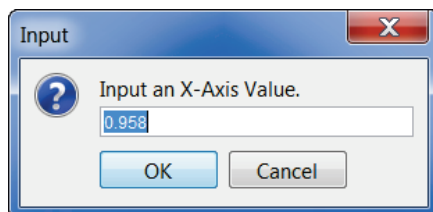

Figure M.8 Input Message Window
- An **Input** message window will open (Figure M.8), asking the user if the value is correct. This value defaults to the location that the user pointed to on the plot area, for either the X-axis or Y-axis. The user can change the value, but that means the maker line will be drawn somewhere else. Click **OK**, the **Input** message window will close (Figure M.8) and the marker line will display on the plot.